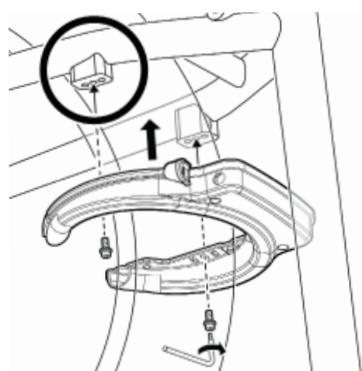

Figure 6: Install bolts with captive washers; frame mount position #1
- b. If your bike frame has three threaded holes on the **frame** mount, use the middle threaded hole on the **frame** mount (see the circle on Figure 6).
- c. Make sure to insert the bolt through the appropriate **lock** mount for your bike, and thread it into the frame mount a few turns (Figure 6 and Figure 7). Do not completely tighten the first bolt yet, or the second bolt will be very difficult to install. Repeat for the second bolt.